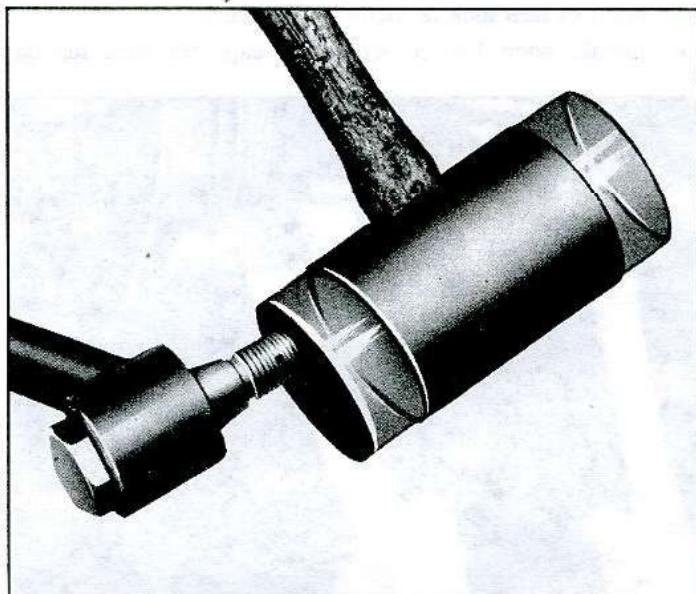

Fig. 25—Removing Pivot Bolt
- Use soft hammer to drive bolt out of bushing (fig. 25).